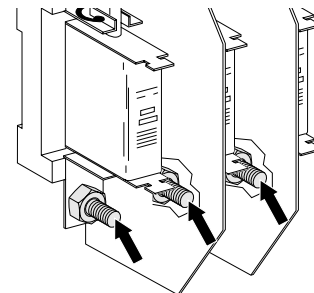

Fig. 15 Power connection of enclosures C1 and C2
- Connect the phases marked L1, L2, L3 on the pads marked L1, L2, L3 (fig. 15, 16, 17 and 18).